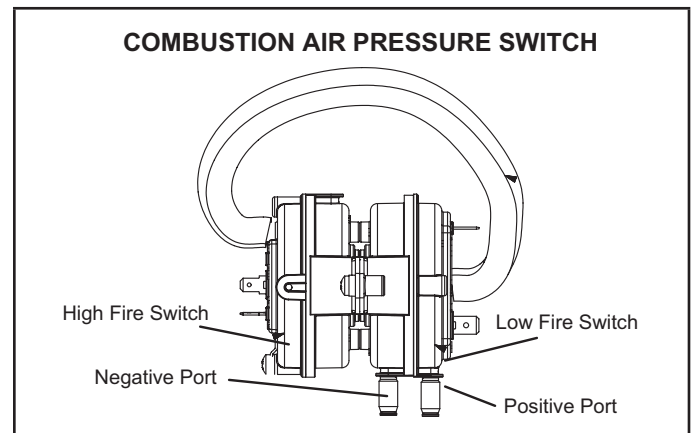

FIGURE 16
EL297UHV(X) series units are equipped with a dual combustion air pressure switch (first and second stage) located on the combustion air inducer orifice bracket. See FIGURE 16. The switch is connected to the combustion air inducer housing by means of a flexible silicone hose. It monitors negative air pressure in the combustion air inducer housing.